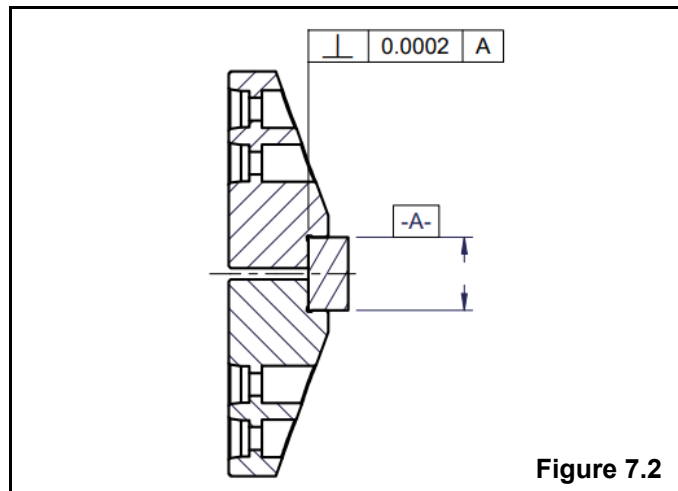

Figure 7.2
6. Short workpieces must have a square locating face on which they are banked, in order to ensure the part is clamped accurately. Refer to Figure 7.2.